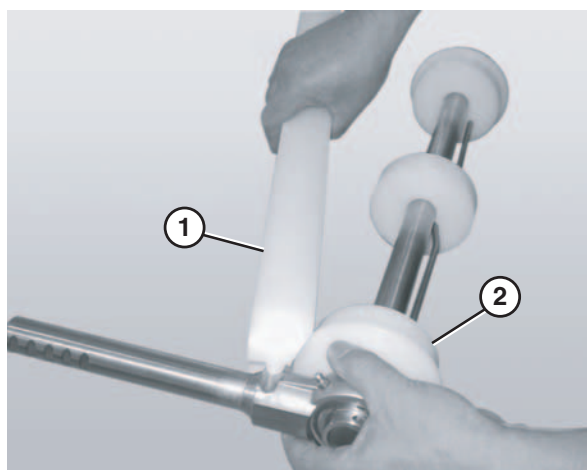

Figure 73
5. Slide the bearing shaft assembly (**Figure 73, item 2**) off the idler shaft.
6. Remove the guard bar (**Figure 73, item 3**).
7. Slide the pucks (**Figure 73, item 1**) off the idler shaft.